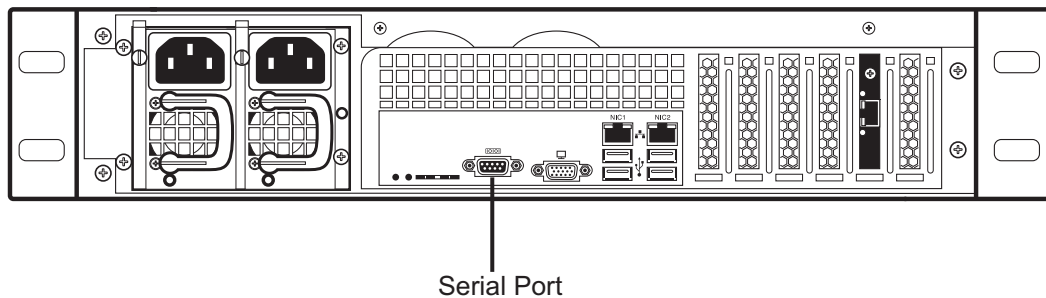

Figure 3.1 Tmedia VoIP Gateway Serial Port Connection
1. Connect a male-male DB9 cross-connect cable between the DB9 serial port of your computer and the DB9 serial port of the TMG7800-CTRL. See figure 3.1 on page 54.